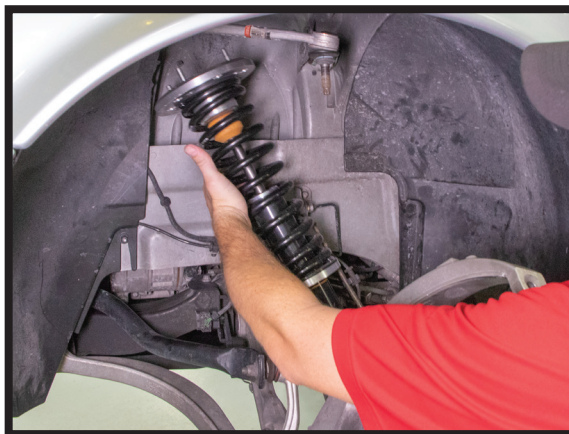

FIGURE 6
- PLACE COIL SPRING ONTO VEHICLE. (FIGURE 6)